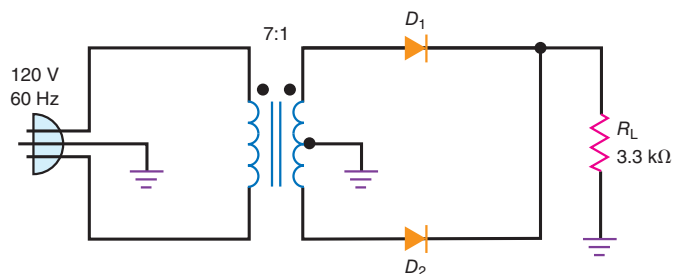

Figure 30-26
30.6 What is the peak output voltage in Fig. 30-26 if the diodes are the second approximation? The average value? The dc value? Sketch the output waveform.